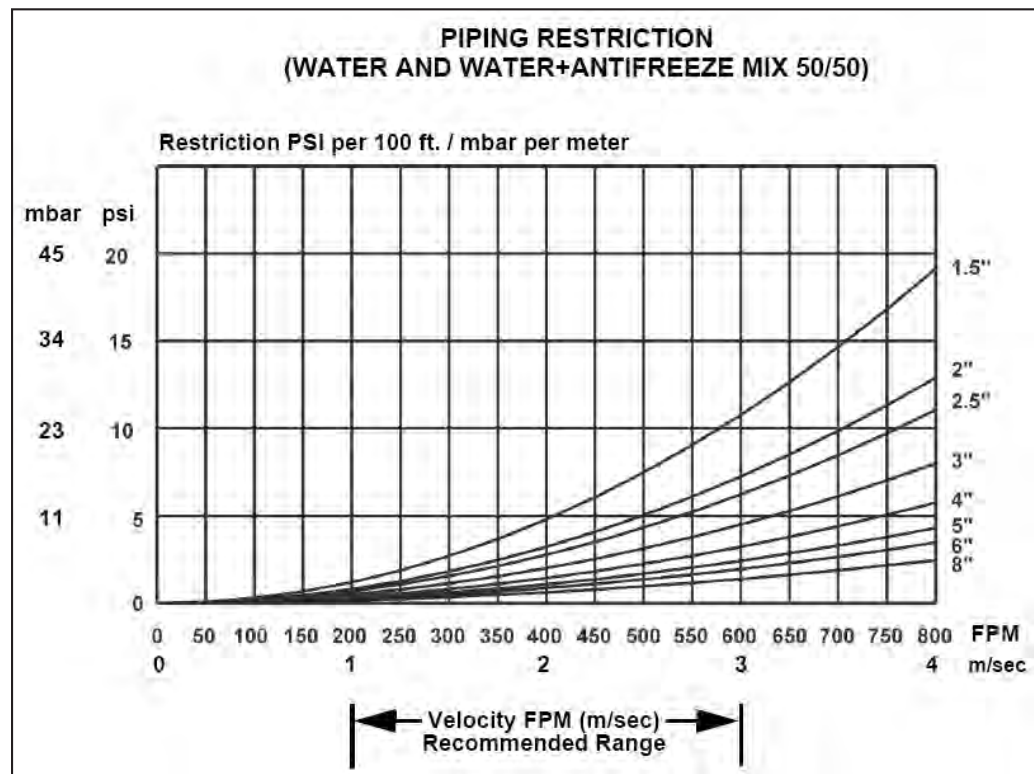

Figure A-1: Piping Restriction Chart
2. Determine pressure loss (P_L) per 100 ft. or meter of pipe for the velocity and pipe size from "Figure A-1: Piping Restriction Chart".